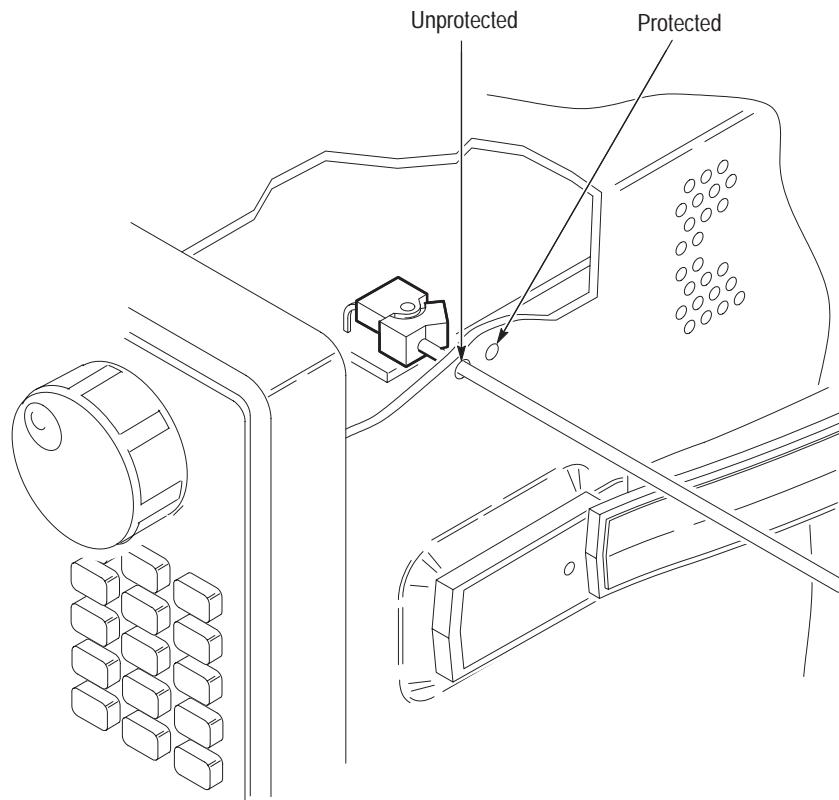

Figure 5–1: Accessing the protection switch
- c. Push to rock the switch to its unprotected (enabled) position. See Figure 5–1.
- a. Locate the two small access holes on the right side of the oscilloscope cabinet near the front. (See Figure 5–1.)